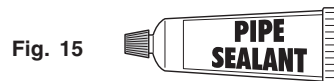

Fig. 15
- Pipe joint sealant that resists action of LP/Propane gas (Fig. 15).